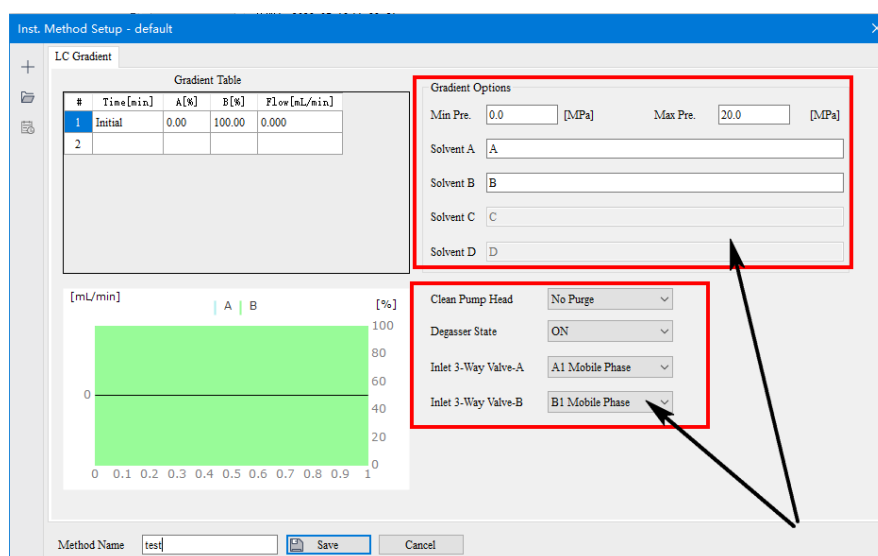

Figure 3-9 Setting the " LC Gradient "
In the " LC Gradient ", can set the time, A, B (C, D) channel solvent percentage and flow rate. Percentage of solvent channel may be modified within the range of 0 to 100, after setting the percentage of channel A, the percentage of B (D) channels of the mobile phase is automatically generated software. The total flow rate of the respective flow channels, can be 0.000 ~ 10.000mL / min, as shown in Figure 3-9.